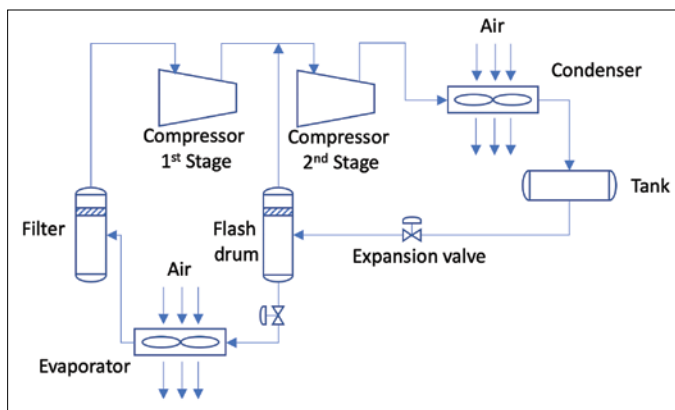

FIGURE 6a. An air-to-air heat pump with two compression stages is shown here
- A multiple-stage heat pump where intermediate flash tanks are placed after each expansion stage to separate vapor going to compression from liquid going to the evaporator (Figure 6a)